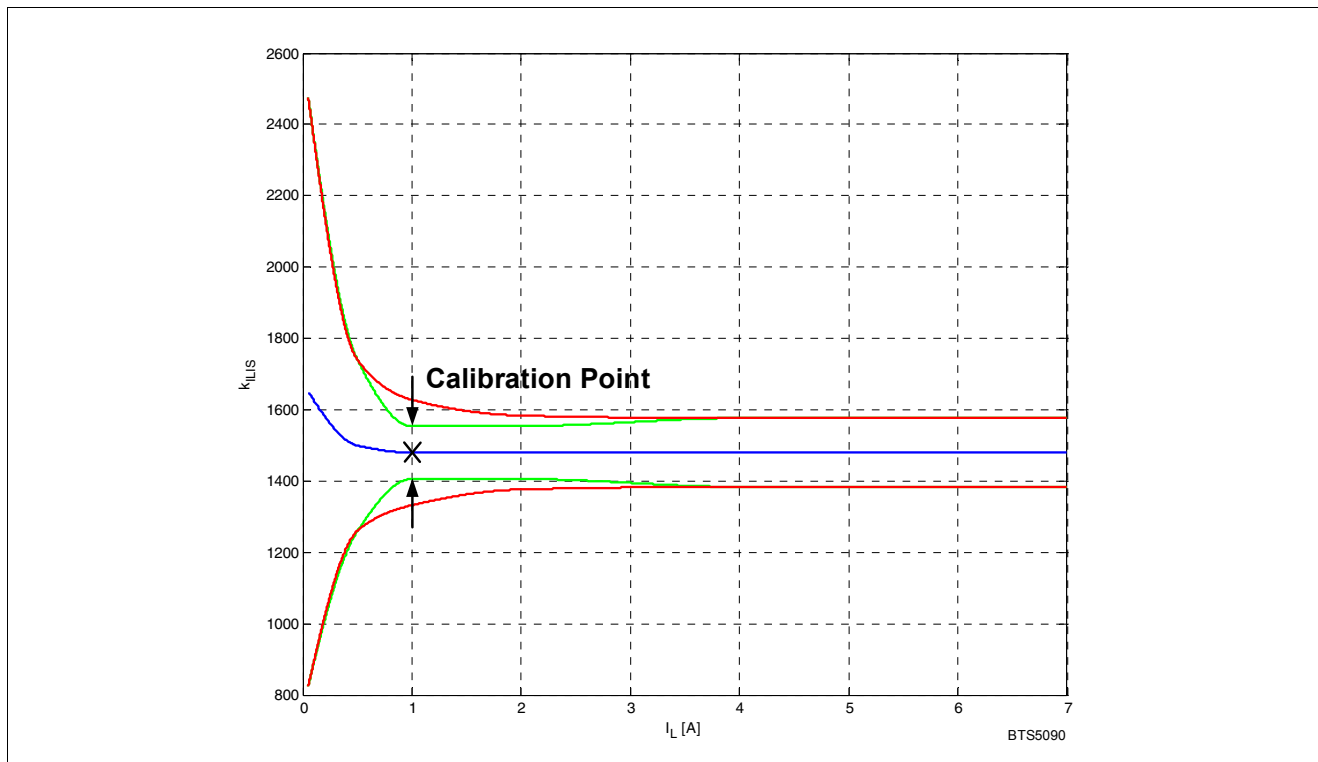

Figure 22 Improved SENSE Accuracy with One Calibration Point
**Figure 21** and **Figure 22** show the current sense as a function of the load current in the power DMOS. Usually, a pull-down resistor  $R_{IS}$  is connected to the IS pin. This resistor has to be higher than  $560\ \Omega$  to limit the power losses in the sense circuitry. A typical value is  $1.2\ k\Omega$ . The blue curve represents the ideal SENSE, assuming an ideal  $k_{ILIS}$  factor value. The red curves show the accuracy the device provides across full temperature range, at a defined current.
In some applications a better accuracy is required around half the nominal current  $I_{L(NOM)}$ . To achieve this accuracy requirement, a calibration on the application is possible. To avoid multiple calibration points at different load and temperature conditions, the BTS5090-2EKA allows limited derating of the  $k_{ILIS}$  value, at nominal load current ( $I_{L3}$ ;  $T_J = +25\ ^\circ\text{C}$ ). This derating is described by the parameter  $\Delta k_{ILIS}$ . **Figure 22** shows the behavior of the SENSE current, assuming one calibration point at nominal load at  $+25\ ^\circ\text{C}$ .
| $k_{ILIS}$ derating with current andtemperature                           | $\Delta k_{ILIS}$         | -5     | 0    | +5   | %             | 3) $k_{ILIS3}$ versus $k_{ILIS2}$See <a href="#">Figure 22</a>                                                                                            | P_7.5.17 |